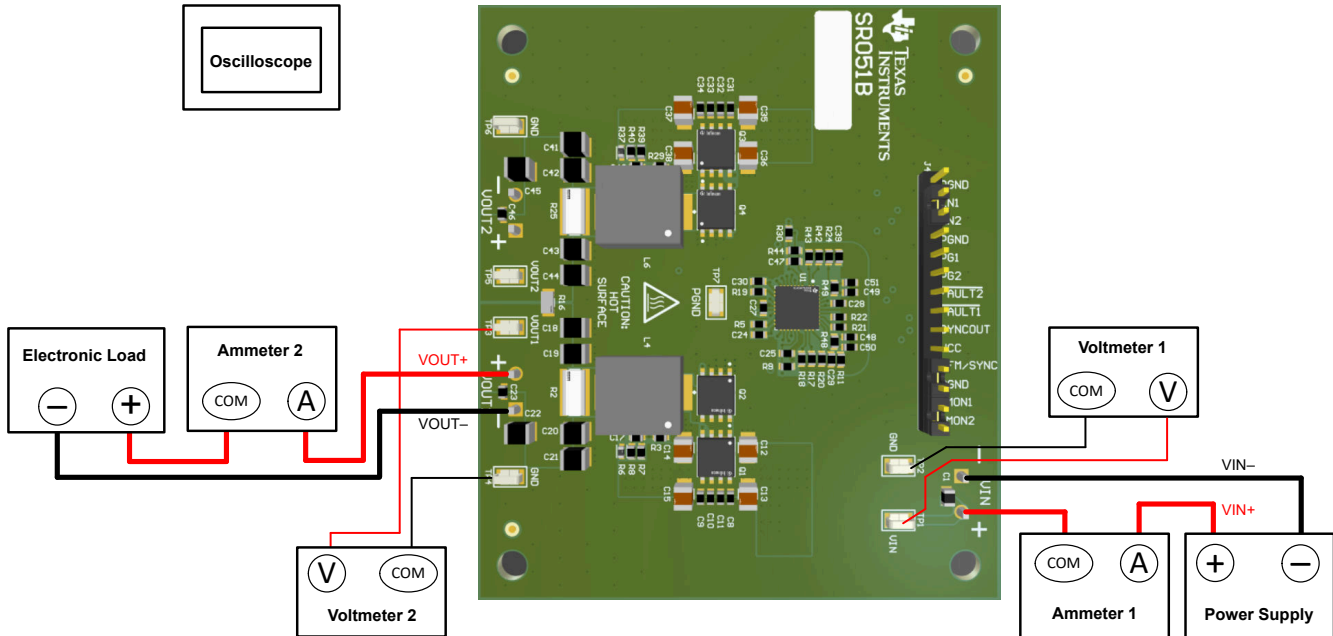

Figure 2-1. EVM Test Setup
Referencing the EVM connections described in Table 2-1, Figure 2-1 shows the recommended test setup to evaluate the LM5137F-Q1-EVM12V. Working at an ESD-protected workstation, verify that any wrist straps, boot straps, or mats are connected and referencing the user to earth ground before handling the EVM.
- Prior to connecting the DC input source, set the current limit of the input supply to 0.1A maximum. Make sure the input source is initially set to 0V and connected to the VIN+ and VIN– connection points as shown in Figure 2-1. TI recommends an additional input bulk capacitor to provide damping when using long input lines.